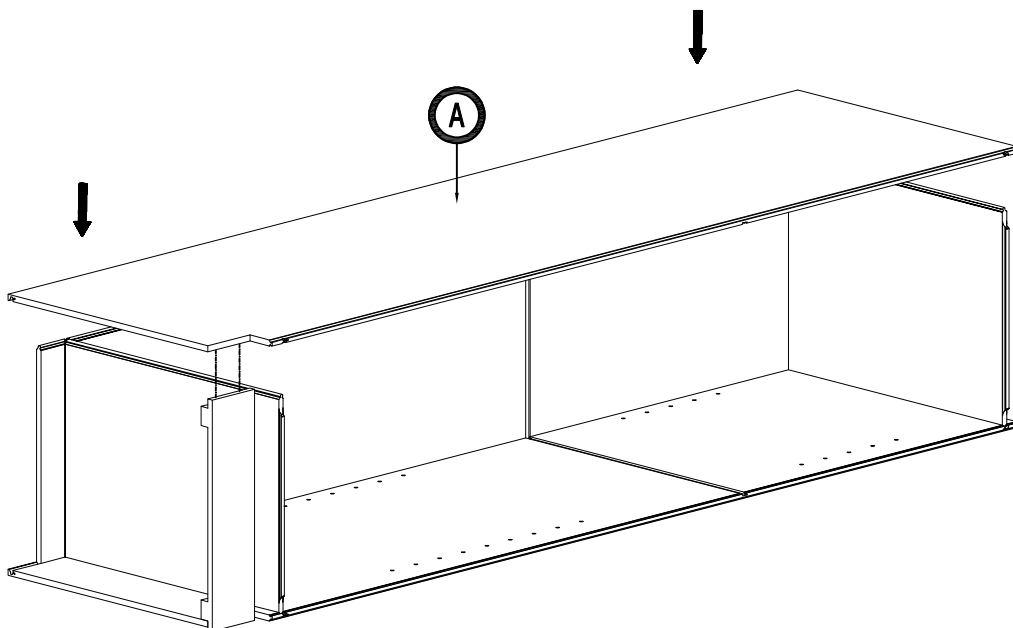

Figure 5
5. Install the side Panel: Insert the side panel (A) into the groove of the back panel (B), top, bottom (C). Press down until they click into place. (Figure 5)